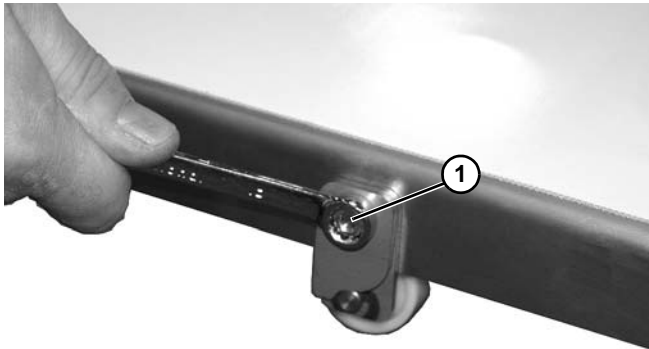

Figure 28
8. Tighten nut (**Figure 28, item 1**).